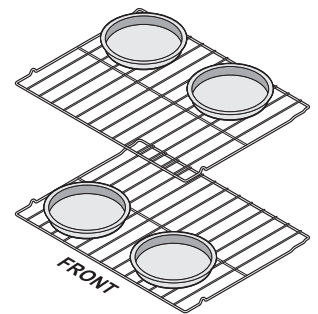

Figure 23: Pan spacing
- When baking using two oven racks, position cookware as shown in Figure 23. Allow at least 2 inches (5 cm) of space between cookware for proper air circulation.